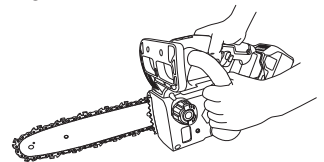

Fig. 3
- a) **Maintain a firm grip, with thumbs and fingers encircling the chain saw handles, with both hands on the saw and position your body and arm to allow you to resist kickback forces. (Fig. 3)** Kickback forces can be controlled by the operator, if proper precautions are taken. Do not let go of the chain saw.